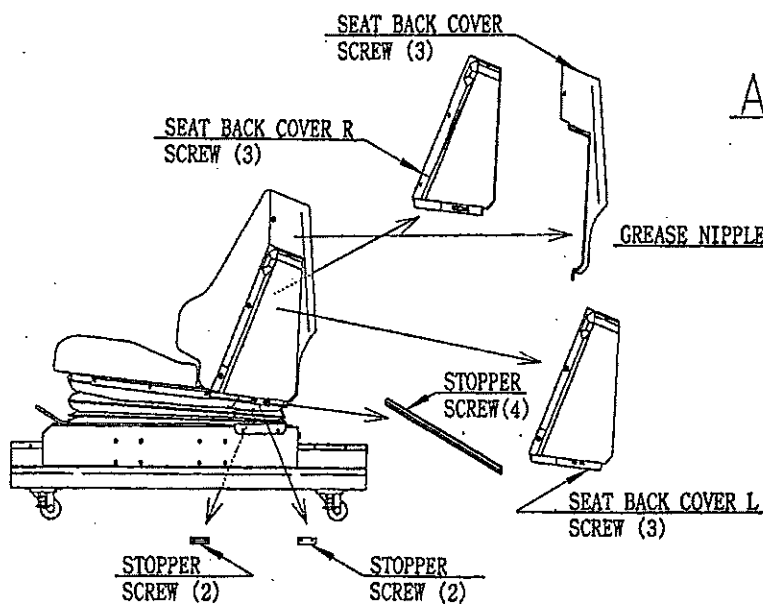

FIG. 12.3a
- ① Remove Stopper (3 points), Seat Back Cover L, Seat Back Cover R, and Seat Back Cover sequentially in order (Fig. 12.3a).